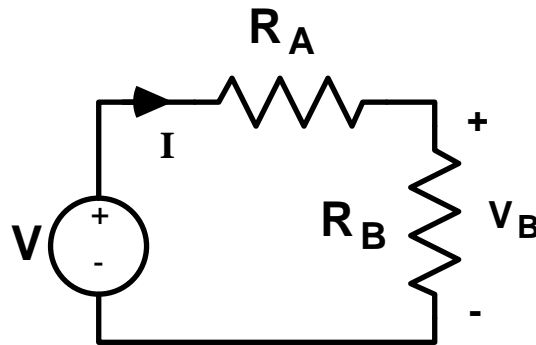

Figure 2.1
(I) Consider the circuit shown in Figure 2.1. Determine a mathematical expression for the current I in the loop and for the voltage V_B across the resistor R_B in terms of the applied voltage V and the resistors. What are I and V_B if $R_A = 10\text{k}\Omega$, $R_B = 1\text{k}\Omega$, and $V = 10$ volts?